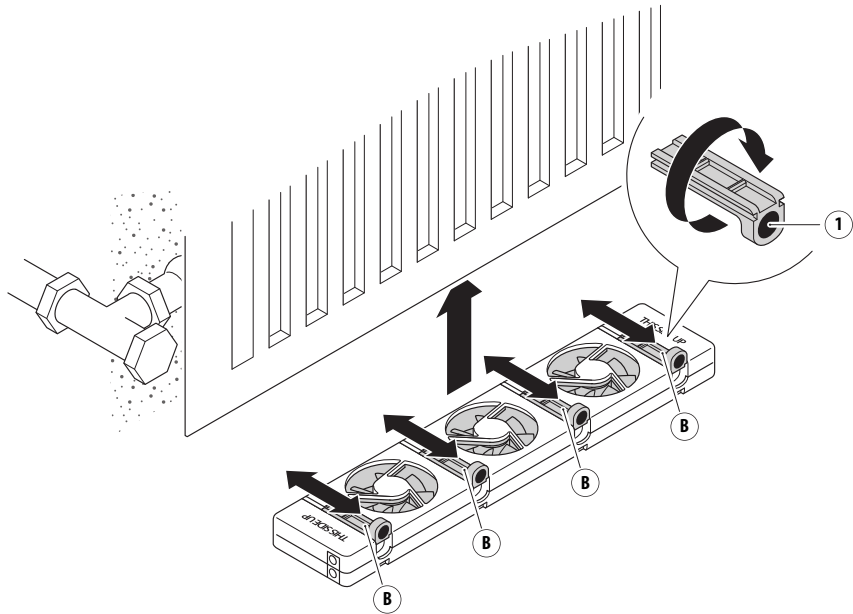

Fig. 5 – Attaching the SpeedComfort (A) to a single-panel radiator.
1. Position the adjustable **magnets** (B) so that the magnets (1) are all on the same side and all four **magnets** (1) are facing upwards. Remove the block located opposite the adjustable magnets inside the housing. Dispose of the block as plastic waste
2. Follow the same steps 1 and 2 as for the wide radiator. Use the adjustable magnets (B) to attach the **SpeedComfort** (A) to the rear of the single-panel radiator (see Fig. 5).